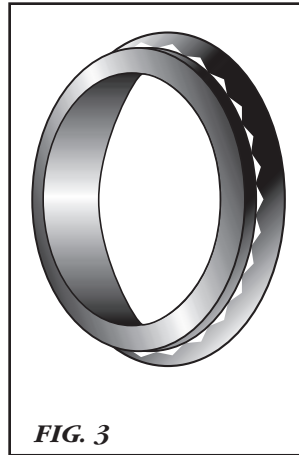

FIG. 3
4. Insert front half of flush cup into the hole and manually push clamp ring (Figure 3) on until cup is tight on front surface.